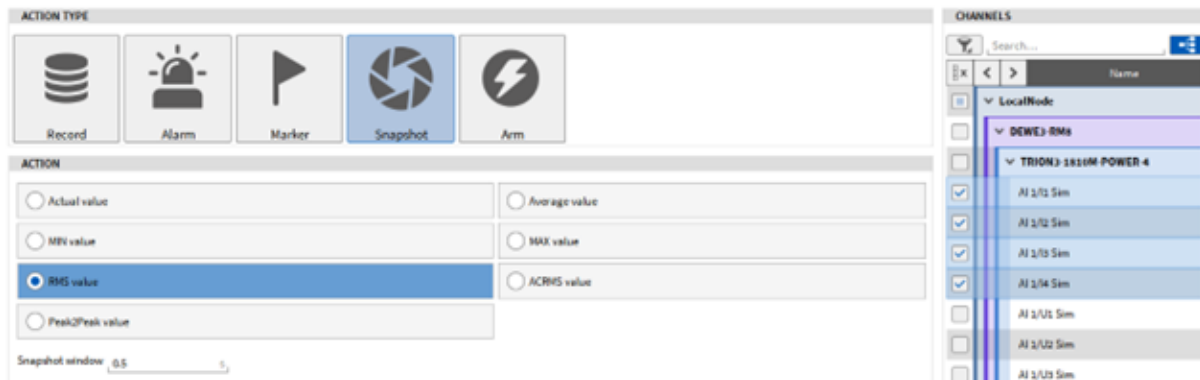

Fig. 9.39: Snapshot Action Type
- To set the Digital Channel to High state, add another Action by pressing the **+Add Action** button, select **Alarm Action Type** and select **Digital out – High on alarm** as Action. The Digital out channel to be set can be selected in the channel list on the right-hand side (see Fig. 9.39). The channel mode of the desired Digital channel must be set to **Digital out** in the Channel List (see Fig. 9.17).